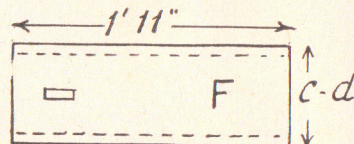

Fig. 3—Outline of horse's head and legs
Now for the horse. Quite a plain affair this requiring no intricate carving, or building up. First cut the seat board, shown at (F) in Fig. 3. This is cut from 1in. board to the length given.
The carriage itself consists of a piece of board 5ins. long and 4ins. wide. It will be seen from Fig. 2 and Fig. 3 that the larger pair of wheels is at the front, on a